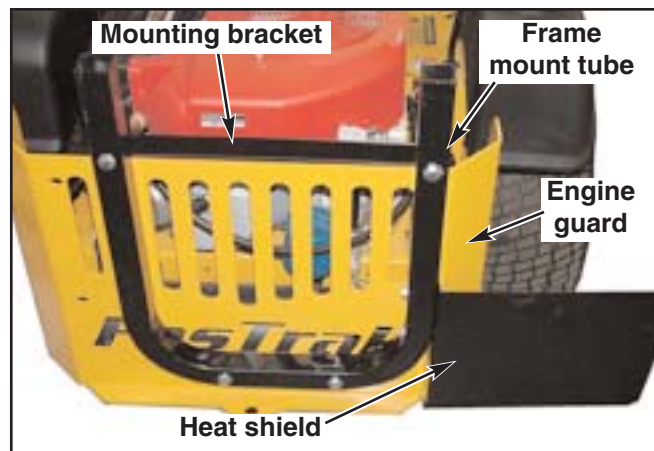

Figure 3-12
1. Attach heat shield (Ref. # 13) to the frame mount tube (Ref. # 27). Fig. 3-12
2. Attach the frame mount tube (Ref. # 27) to the rear engine guard. Fig. 3-12
3. Attach the mounting bracket (Ref. # 28) to the frame mount tube (Ref. # 27). Fig. 3-12